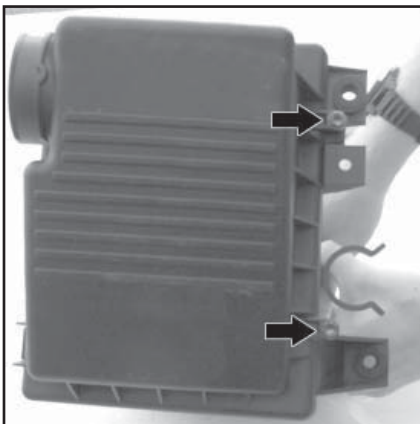

Fig. 3
2. Unfasten the two screws (Fig. 3) that hold the airbox lid to the airbox base with a 5/16 socket and remove the lid from the vehicle.